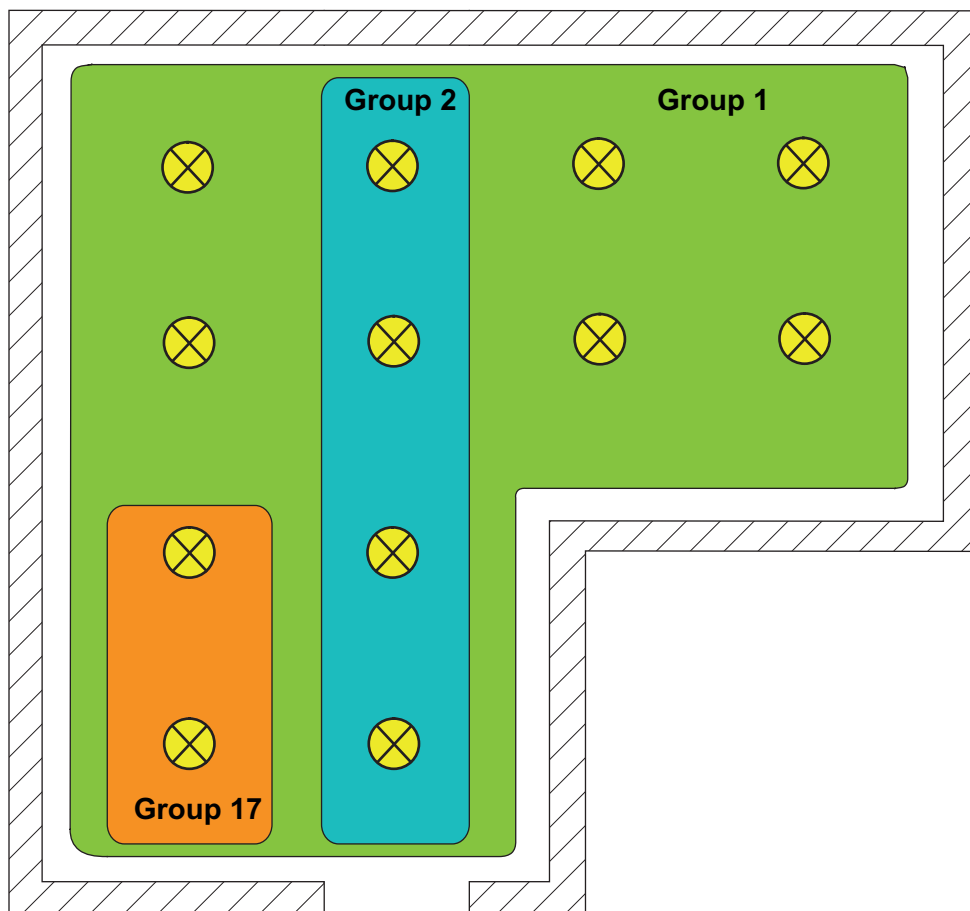

Figure 16: Example of multiple assignment of operating devices -
- i** DALI operating devices assigned to multiple groups always set themselves to the most recent status set using one of the assigned groups. In this case, feedback of the switching status or the brightness value of a group may not always be clear. The following examples explain this behaviour (figure 16):